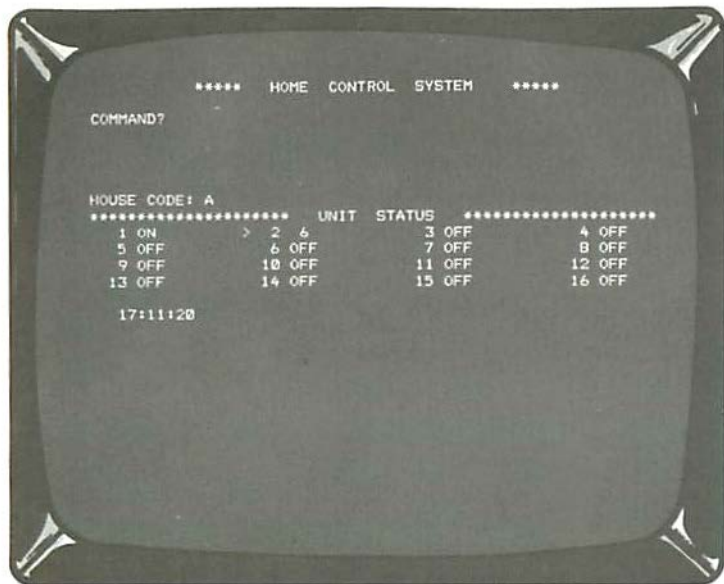

Figure 4. Typical display after the commands 2 **ENTER** DIM4 **ENTER**.
The level of intensity of a lamp connected to a Lamp Dimmer Module or Wall Module may be reduced from 10 ("ON" full intensity) to ("OFF"). If the selected module is on at the time of the command, the level of intensity will be reduced by the value of the DIM command. If the light is off it will first be turned on to full intensity (10) and then reduced by the value of the DIM command. The DIM1 through DIM9 commands will not work with Appliance Modules. See **Figure 4**.